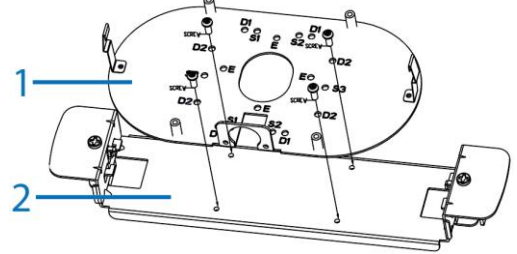

Figure 4
2. Insert the adaptor plate (1) (Figure 4) (that comes with the camera) into the bracket (2) (Figure 4) and insert the four M4 screws into the four holes and use a screwdriver to securely attach the adaptor plate to the bracket.